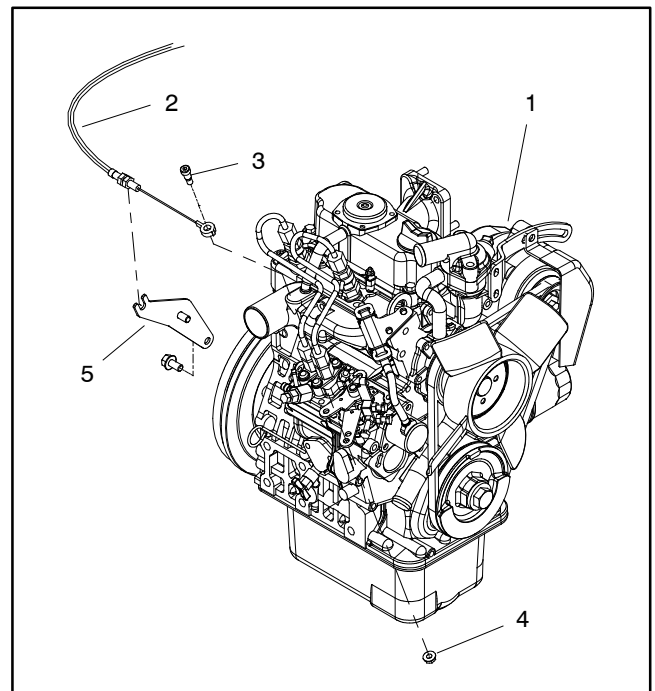

Figure 2
3. If necessary, throttle control can be adjusted by loosening cable jam nuts and repositioning throttle cable until speed control lever contacts high speed screw when the throttle pedal is fully depressed (Fig. 2). Tighten cable jam nuts after adjustment has been completed.